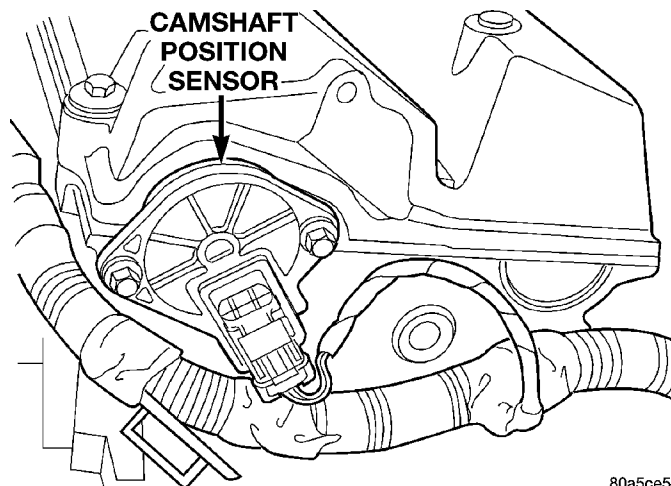
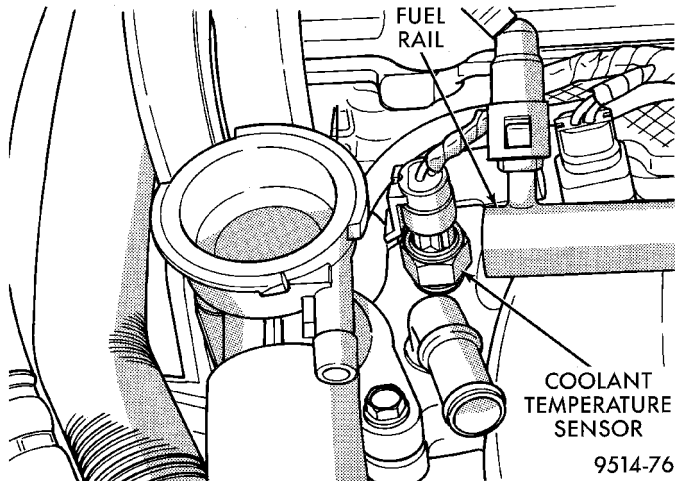

Fig. 65 Camshaft Position Sensor
Fig. 66 Engine Coolant Temperature Sensor
(15) Check the electrical connections at the camshaft position sensor (Fig. 65) and engine coolant temperature sensor (Fig. 66).